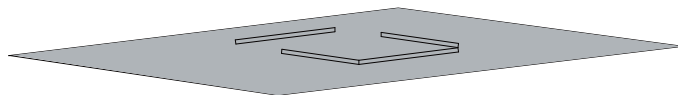
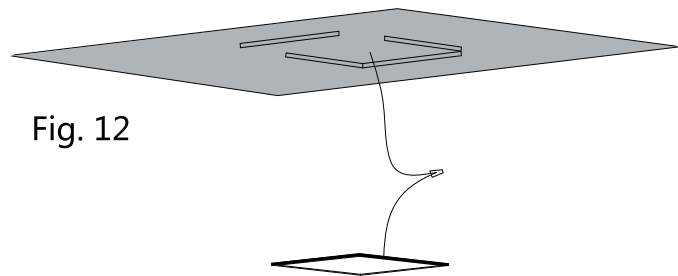

Fig. 11
Fig. 12
2. Remove one of the end brackets(Fig. 11), and connect the luminaire wiring to the incoming supply. (Fig. 12)